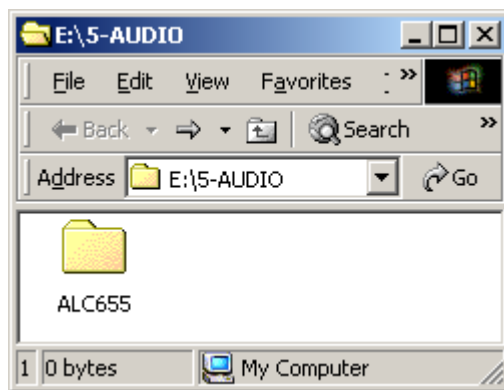

Figure 7-40: Open the ALC655 Folder
Step 2: A new window opens (**Figure 7-40**).